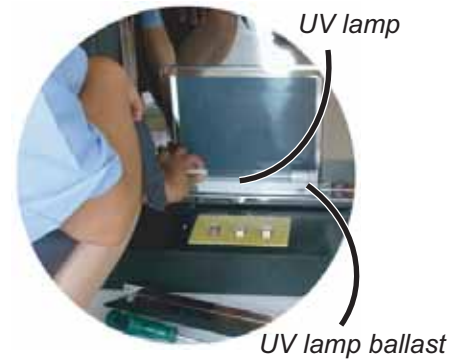

Fig. 5.4.1-1 UV lamp and UV lamp ballast.
- If the UV lamp seems good, rotate the lamp gently to reinstall the lamp correctly at the ballast (Fig.5.4.1-1). After the UV lamp is placed correctly at the ballast or you have replaced the lamp and there is still a problem with UV light, you need to check the UV socket power.